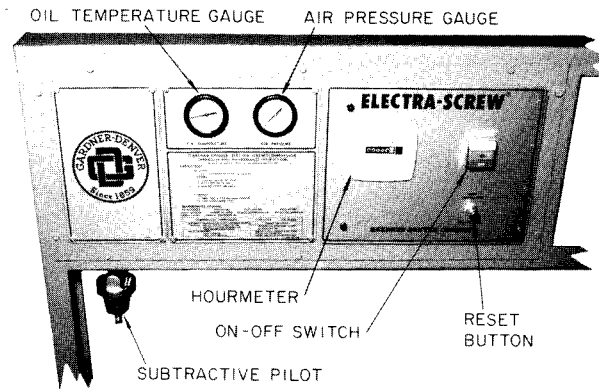

FIGURE 7-4. — INSTRUMENT PANEL
**INSTRUMENTS AND GAUGES** (Figures 7-4, 8-4, 10-4 & 11-4) — All four control system instrument panels incorporate the following:
**CONSTANT SPEED CONTROL SYSTEM** (Figures 1-4, 2-4, 6a-4, 6b-4 & 7-4) — The Constant Speed Control System is used where requirements for air are high for long periods, causing the unit to remain loaded most of the time. The control is a stepless pneumatic system which regulates compressor inlet to match air demand made on the compressor. Effective from 0 to 100% of compressor capacity, the control opens the inlet valve as air is drawn from the service valve, maintains a constant valve opening as air demand levels off, or closes valve when the demand ceases. The subtractive pilot and inlet valve are shown in Figure 2-1. The ON-OFF switch and instrument panel are shown in Figure 7-4.